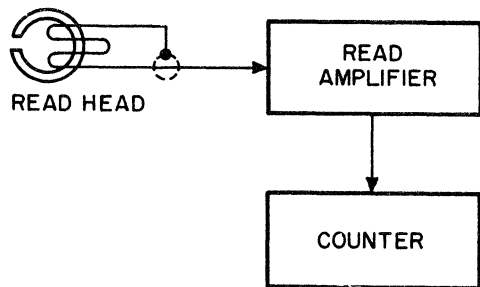

Fig. 4.15
Step 1. Connect test equipment as shown in Figure 4.15.